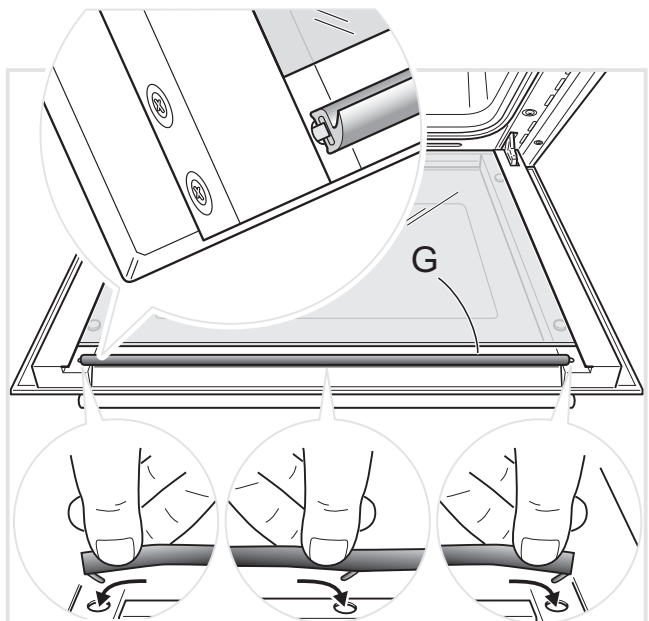

Figure 27d
- Reassemble the seal “G” in the correct way by hooking the no. 3 fixing hooks in the proper holes (fig. 27d).